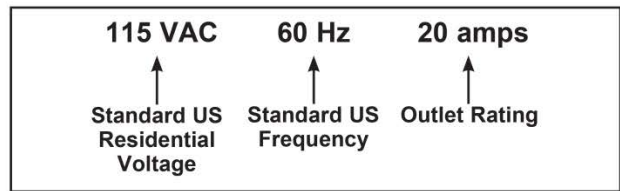
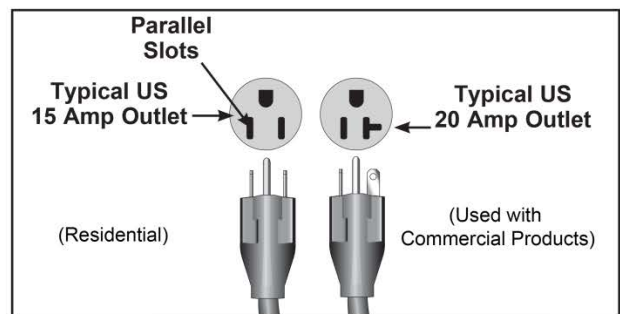

Figure 1
Figure 2
TRUE's recommendation is to leave a 39" safety zone at rear of elliptical. The sides of the unit should be at least 20" away from the wall or obstructions. (See Fig 1)
For example, in the United States some TRUE treadmills require a circuit rated 115 VAC, 60 Hz and 20 amps. See Figure 1. However, a home typically has 15 amp outlets. In this case, contact an electrician to install a 20 amp dedicated line prior to use. See Figure 2.
- Important:** With machine still on pallet, attach handle bars to the front and rear of machine. Handle Bars will provide assistance in moving machine. Figures 1 & 2